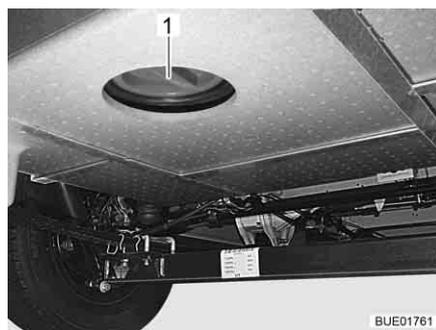

Fig. 265 Cleaning opening on the waste water tank
- Open the cleaning opening (Fig. 265,1) on the waste water tank and the drain cock.